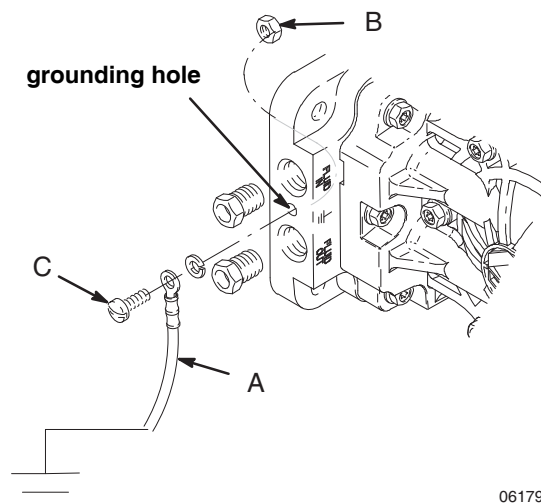

FIG. 1
The *polypropylene and PVDF pumps* are **not** conductive. When you pump conductive flammable fluids, **always** ground the entire fluid system by making sure the fluid has an electrical path to a true earth ground. See FIG. 1. **Never** use a polypropylene or PVDF pump with non-conductive flammable fluids as specified by your local fire protection code. Consult your fluid supplier to determine the conductivity or resistivity of your fluid.
Pump: Connect a ground wire (A) and clamp, Part No. 222011. See FIG. 1. The pump grounding locations are on the manifold between the inlet and outlet ports. Use the nut (B) and bolt (C) that are provided with the pump, and install as follows: